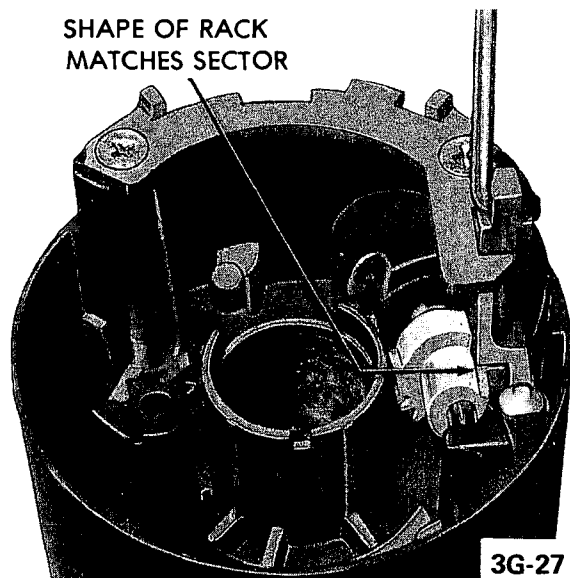

Figure 3G-93 - Rack and Lock Bolt Assembled to Sector
6. Install the thrust cup on the bottom hub of the housing. Be sure key of cup aligns with keyway in hub. See Figure 3G-81.